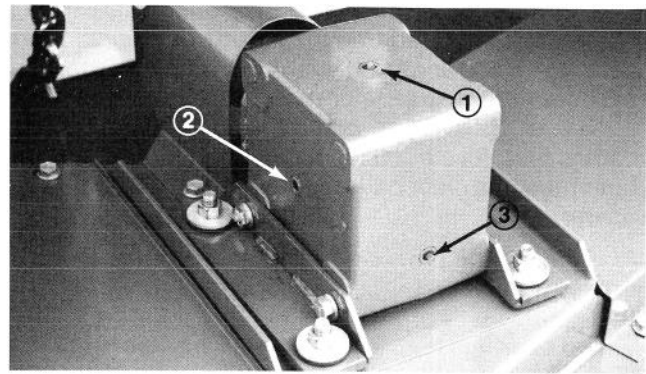

Figure 27
2. Lower cutting unit so caster wheels are on a level surface. Remove check plug (Fig. 27) from side of gear box and check level of lubricant. If level of lubricant is low, remove fill plug on top of gear box and add SAE 80-90 wt. gear lube until level is up to bottom of check hole.